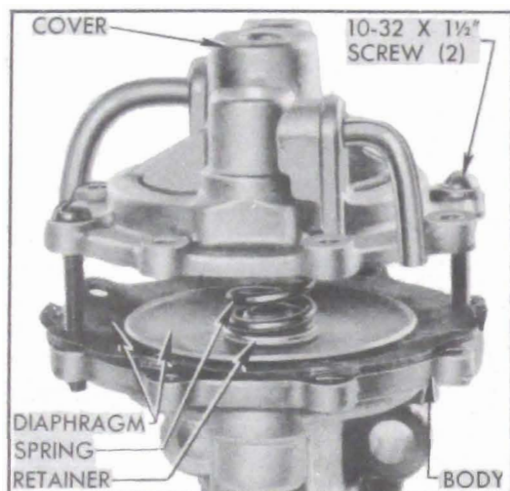

Figure 3-12—Removing Vacuum Cover
1. Replace two diametrically opposite vacuum cover screws with 10-32 x 1½" screws and turn them down snug. Remove all other cover screws, then alternately loosen the 1½" screws until pressure of diaphragm spring against cover is fully released. See figure 3-12.
9. With projection of vacuum cover placed toward rocker arm, install two 10-32 x $1\frac{1}{2}$ " screws in diametrically opposite screw holes (fig. 3-12) and alternately turn screws down until cover is close to the diaphragm.